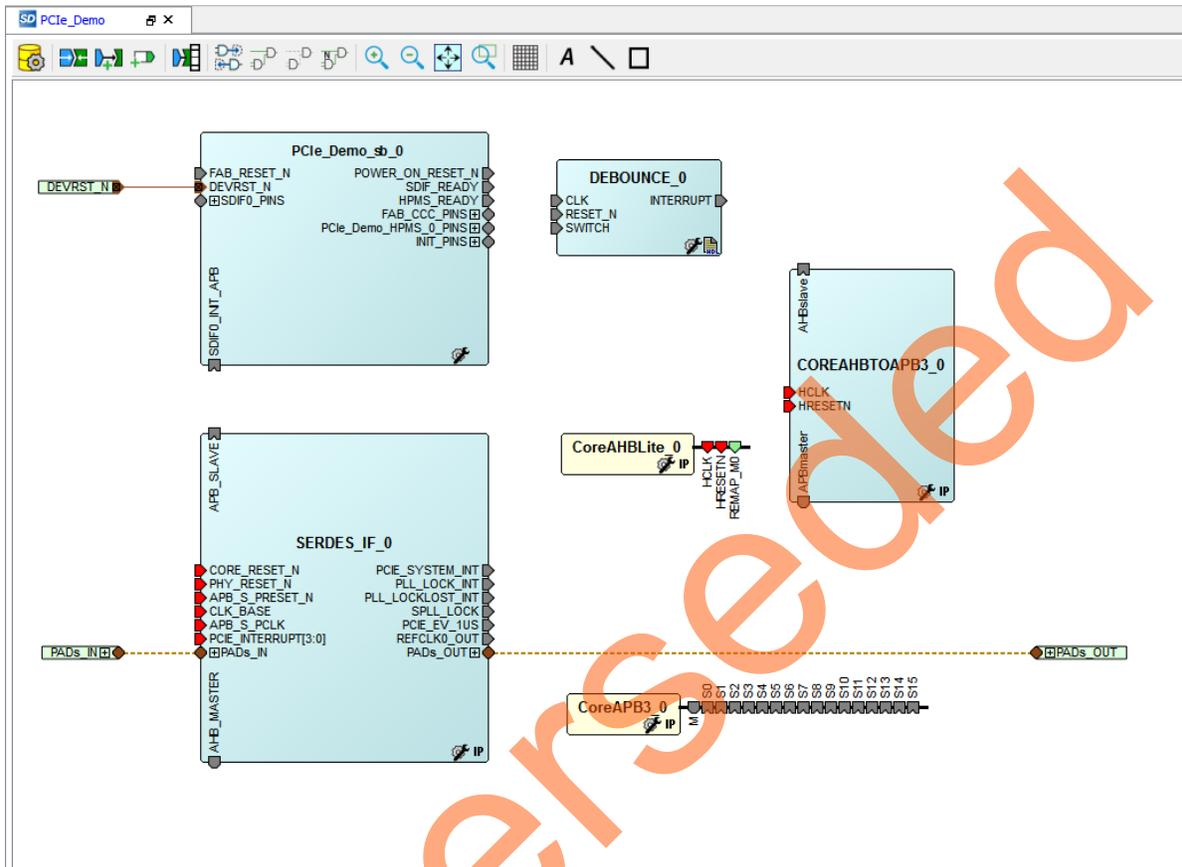

Figure 18 • CoreAHLite, CoreAHBtoAPB3, and CoreAPB3 Bus Interfaces in PCIe_Demo_top SmartDesign Canvas
1. Drag CoreAHLite, CoreAHBtoAPB3, and CoreAPB3 bus interfaces into the PCIe_Demo_top SmartDesign canvas. If the component appears shadowed in the **Vault**, right-click the name and select download. Figure 18 shows the Libero top-level design with bus interfaces.